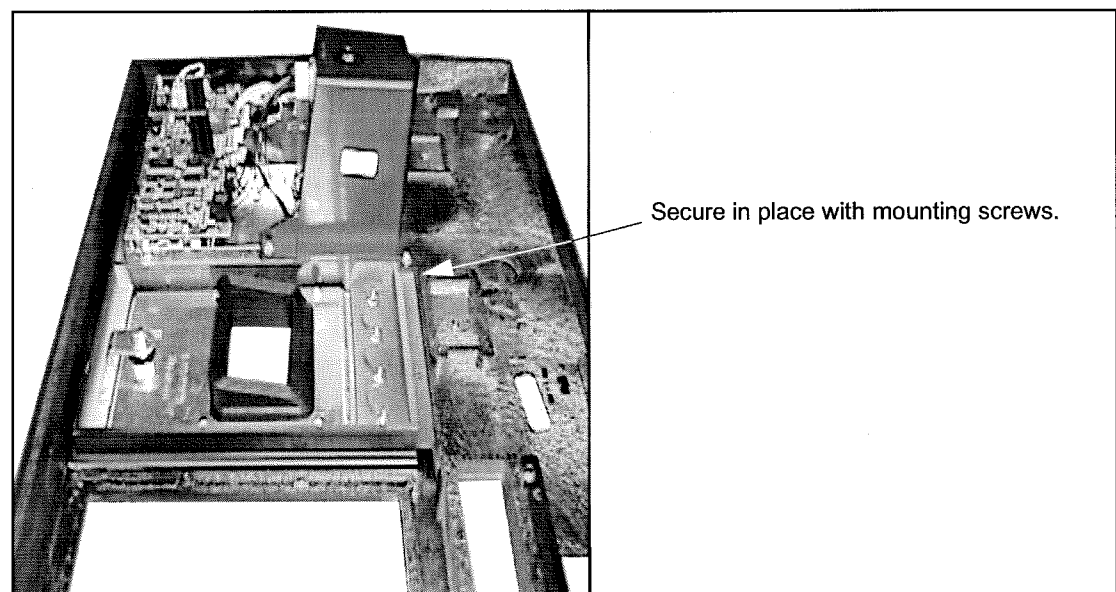

Figure 3-3 CPM Installed in Bezel
2. When in place, secure the bezel with the hardware retained in paragraph 3.2. See Figure 3-3.